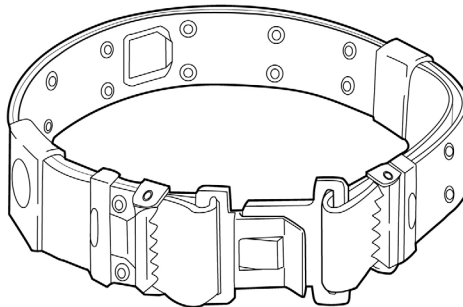

Figure 18. Individual Equipment Belt.
**Individual Equipment Belt (Replaced by MOLLE II TM 10-8465-236-24&P).** The individual equipment belt (Figure 18) is made from Army Olive Drab #7 nylon webbing with black, chemical finish adjusting buckles, keepers, and belt buckle. The medium size belt is for Soldiers with waists measuring less than 30 inches, and size large is for those with waists measuring 30 inches or more. The belts are adjusted from each end by means of clamp-type buckles which slide on the belt when open. The individual equipment items are attached by interlocking slide keepers or are hooked through eyelets along the bottom of the belt. The eyelets along the top of the belt are for attaching the suspenders.